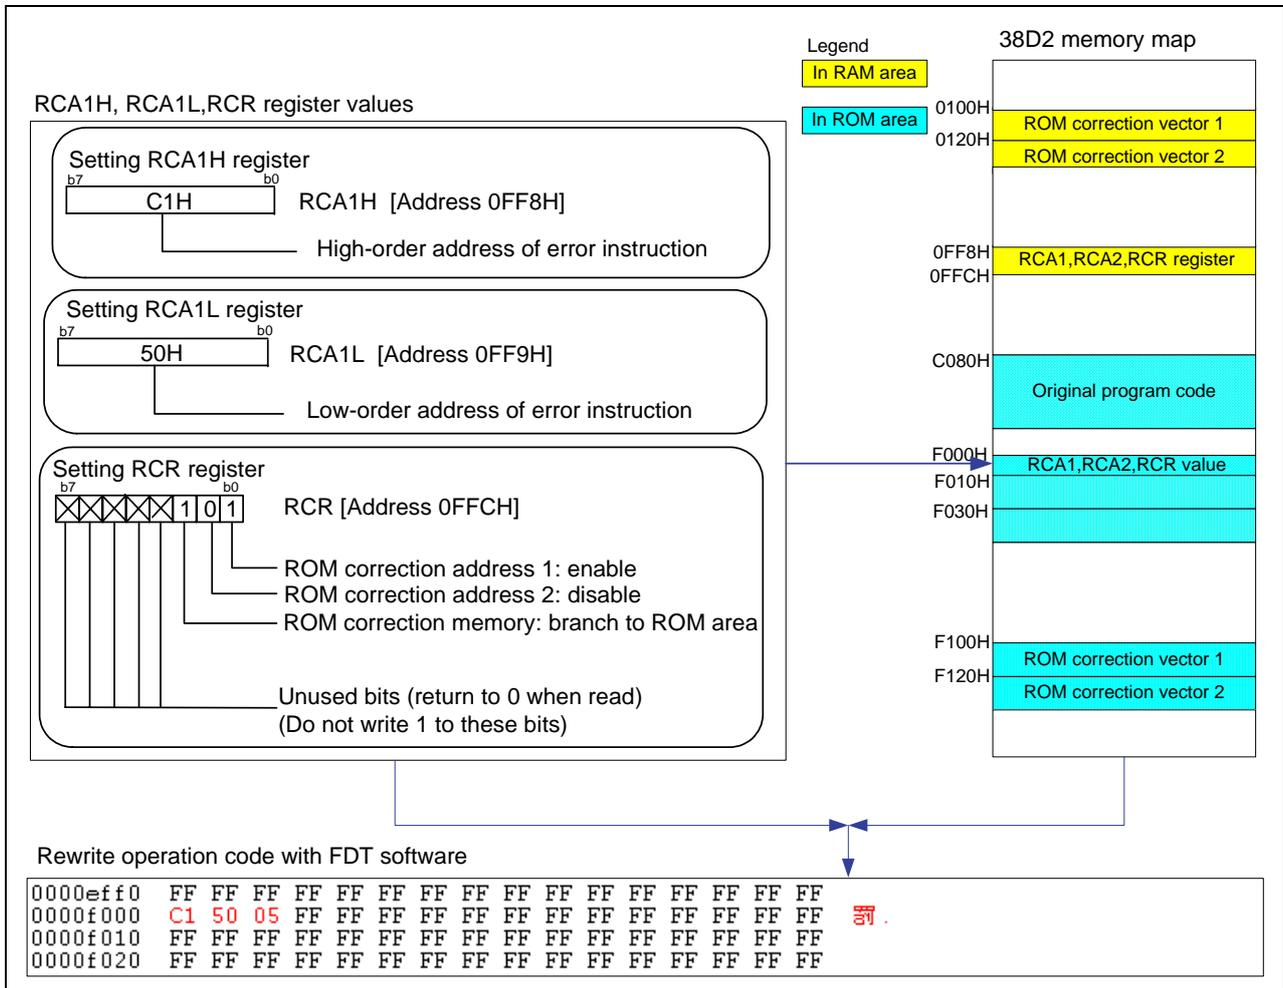

Figure 3 Setting SFR about ROM Correction Function
- To use the ROM correction function, rewrite the values of RCR, RCA1H and RCA1L to the non-protected blank ROM area starting from F000H. This operation is shown in Figure 3.